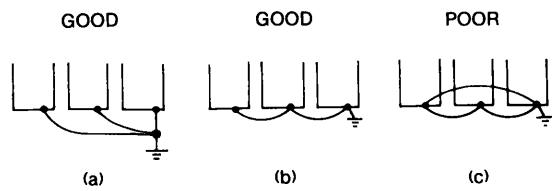

Fig. 4 Grounding of Three VS-616H3 Units
- (1) Ground resistance should be  $100\Omega$  or less.
- (2) Never ground VS-616H3 in common with welding machines, motors, and other large-current electrical equipment, or ground pole. Run the ground lead in a separate conduit from leads for large-current electrical equipment.
- (3) Use the ground leads which comply with AWG standards and make the length as short as possible.
- (4) Where several VS-616H3 units are used side by side, all the units should preferably be grounded directly to the ground poles. However, connecting all the ground terminals of VS-616H3 in parallel, and ground only one of VS-616H3 to the ground pole is also permissible (Fig. 4). However, do not form a loop with the ground leads.